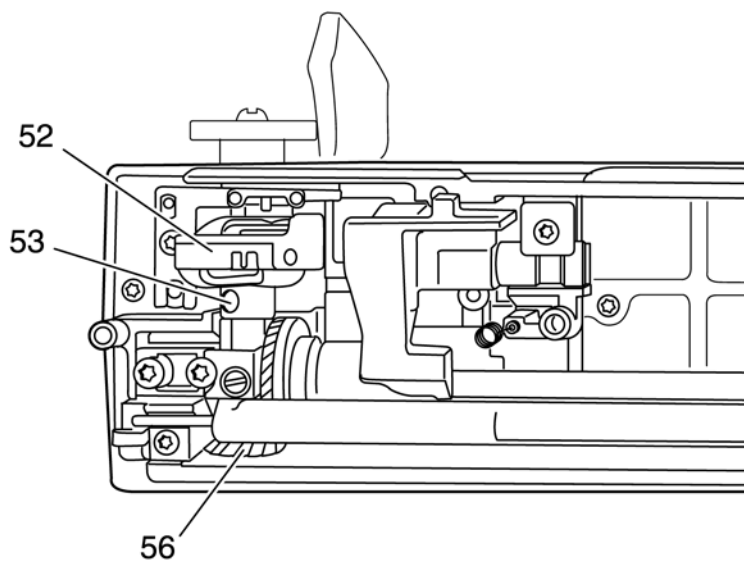

Fig. 37
- Loosen the two screws 53 (fig. 37).